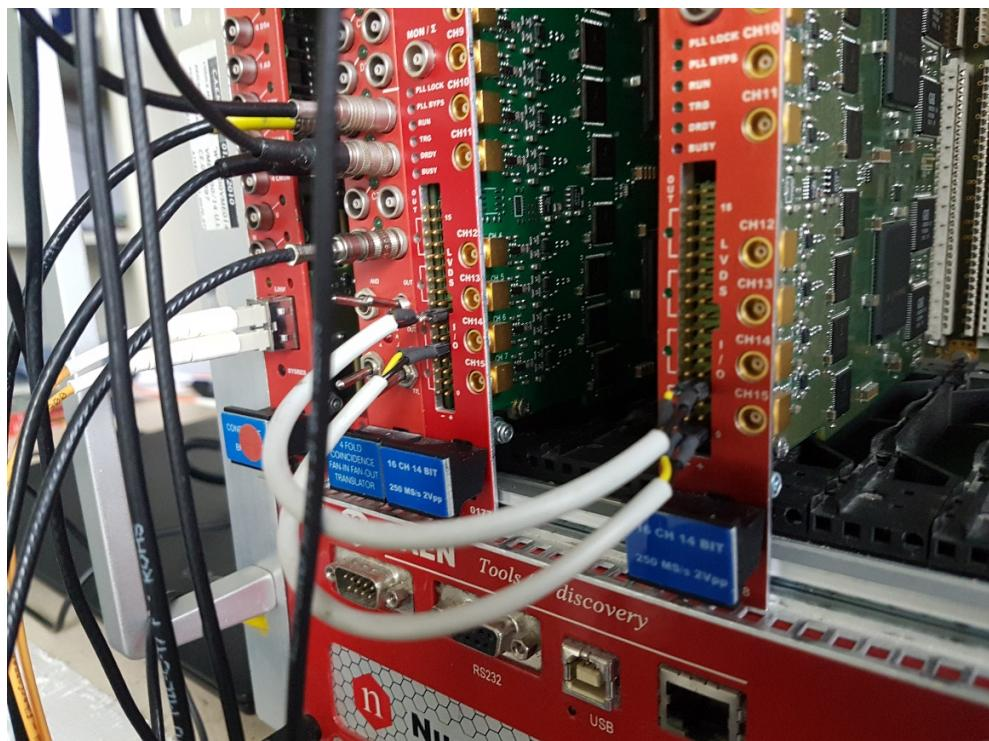

Fig. 4.2: RUN IN and BUSY daisy-chains through the LVDS connectors
- (b) The RUN IN signal is propagated from one board to the other in daisy-chain through the LVDS connectors in the lower part of the board front panel, as shown in Fig. 4.2. In particular, the LVDS pair 7 of each board is configured as a RUN IN output and should be connected to the LVDS pair 3 of the following board in the daisy chain (configured as a RUN IN input), see Fig. 4.2;
- (c) The BUSY signal is propagated from one board to the other in daisy-chain through the LVDS connectors in the lower part of the board front panel, as shown in Fig. 4.2. In particular, the LVDS
pair 4 of each board is configured as a BUSY output and should be connected to the LVDS pair 0 of the following board in the daisy chain (configured as a BUSY input), see Fig. 4.2. Note that each board adds his own BUSY signal to the daisy-chained BUSY, so that at the end of the daisy chain one has the OR of all the BUSY signals from the boards. This latter signal, that is fanned-out from the TRG OUT connector of the last board in the daisy chain (see Fig. 4.3) must be used to veto triggers to the boards;